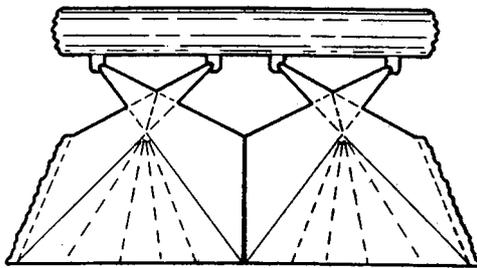

Figure 8 — Nozzle Spray Distribution
3. Check to see if the nozzles are producing the spray pattern shown in Figure 8.